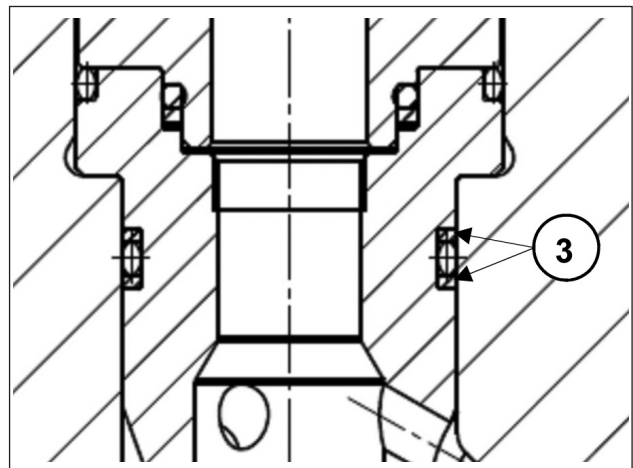

Fig. 28
Insert the suction and outlet valve units with their bushes, checking that they are fully inserted in the head seat. Take special care not to damage the anti-extrusion rings on the bushes (Fig. 28, pos. ③). For correct positioning and adjustment of rings in their respective seats: